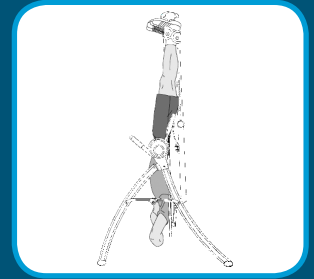

Figure 9
- Press the Rotation Adjustment Button in the direction of your head and rotate completely upside down until the table bed stops against the Crossbar. Allow your back to relax and hang freely from the table bed (Figure 9). You'll have freedom of movement for stretching and exercise.